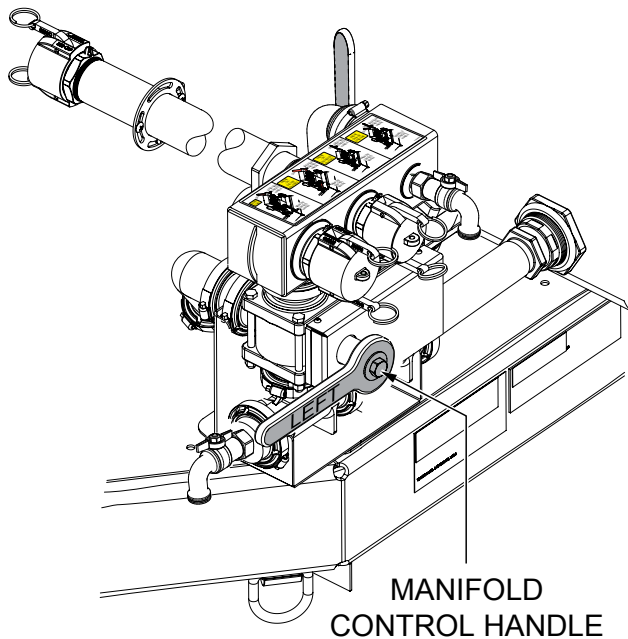

Figure 26. Manifold Control Handle Position
8. Rotate the manifold control handle to the 9 o'clock position (horizontal/left) and leave it there (Figure 26).